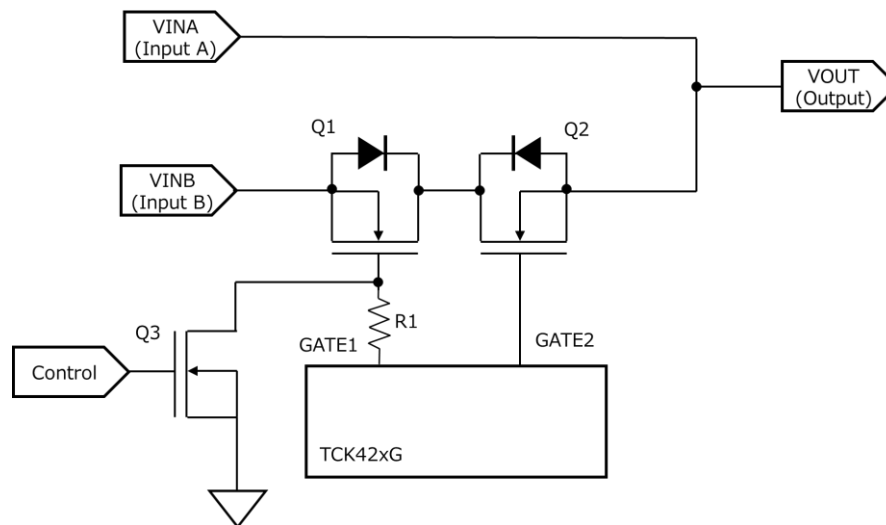

Fig. 4.4 MBB Operation Circuit
The MBB operation outline of this circuit is described below. The MBB operation circuit shown in Fig. 4.4 assumes that $V_{INA} > V_{INB}$ and V_{INB} is continuously energized.
- ① 5 V is applied to VINB, and VINB voltage (about 5 V) is sent to the output.
- ② When 20 V is applied to VINA, the FLAG output becomes High (approx. 3.3 V). And VINA driver (TCK421G) starts operating at this timing.
- ③ In VINB driver circuit, the gate-shut-off MOSFET SSM3K15ACTC corresponding to Q3 in Fig. 4.4 is turned on, and MOSFET TPHP6503PL1 corresponding to Q1 is turned off. During the start-up time t_{ON} after TCK421G is turned on in ② (about 3 ms), the voltage dropped by the forward voltage of the body diode of Q1 from VINB voltage is output to VOUT.
- ④ VINA voltage (about 20 V) is output after t_{ON} period of TCK421G from the time it turned on in step ③.
- ⑤ When the applied voltage of VINA becomes 0 V, FLAG output becomes Low (0 V).
- ⑥ Since VINA voltage became 0 V, the Gate Shut-off MOSFET corresponding to Q3 in Fig. 4.4 is turned off, and TPHP6503PL1 corresponding to Q1 starts turn-on operation. During this time, voltage dropped by the forward voltage of the body diode of Q1 from VINB voltage is output to VOUT.
- ⑦ TPHP6503PL1 corresponding to Q1 is turned on. VINB voltage (approx. 5 V) is output.